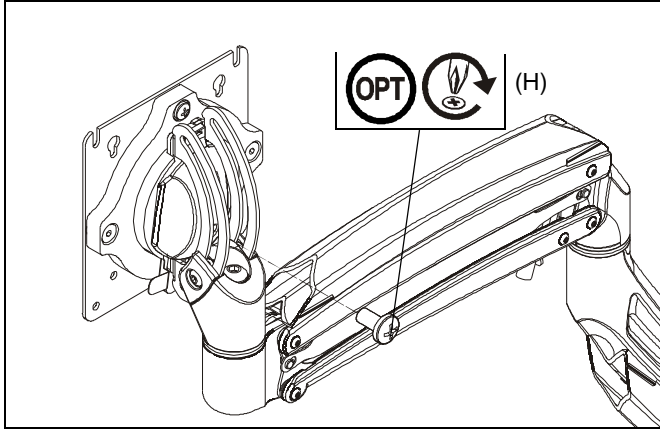

Figure 15
NOTE: In order to prevent display from being easily removed from mount using the quick release lever, install M4x4mm security screw (H) into lower hole on back of faceplate. (See Figure 15)